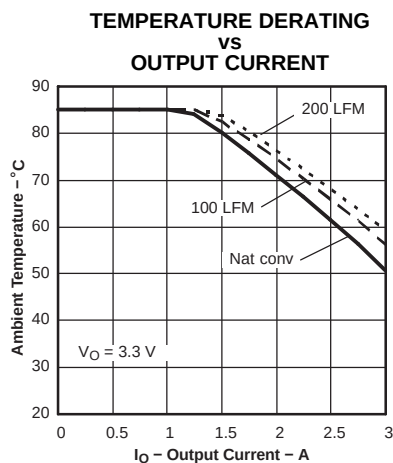
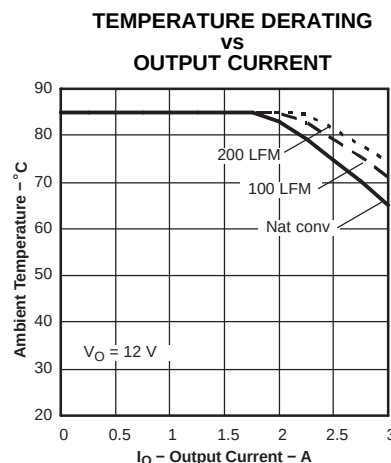

**Figure 9.**
**Figure 11.**
- (2) The temperature derating curves represent the conditions at which internal components are at or below the manufacturer's maximum operating temperatures. Derating limits apply to modules soldered directly to a 100 mm x 100 mm, double-sided PCB with 2 oz. copper. For surface mount packages, multiple vias (plated through holes) are required to add thermal paths around the power pins. Please refer to the mechanical specification for more information. Applies to Figure 9 through Figure 11.